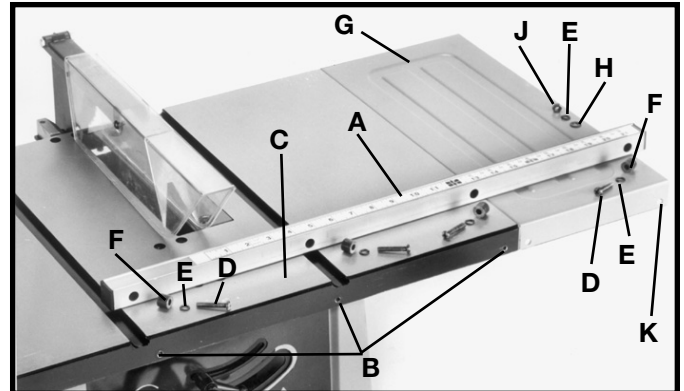

Fig. 20
1. Loosely fasten guide rail (A) Fig. 20, to three threaded holes (B) in saw table (C) using three 1/4-20 x 1-1/4" long screws (D), 1/4" lockwashers (E), and spacers (F). **IMPORTANT: Spacers (F) Fig. 20, are positioned between guide rail (A) and saw table (C).**
2. Fasten guide rail (A) Fig. 20, to extension wing (G) through hole (K) using the 1/4-20 x 1-1/4" long screw (D), 1/4" lockwasher (E), spacer (F), 1/4" flat washer (H), 1/4" lockwasher (E), and 1/4-20 hex nut (J). Then tighten all guide rail mounting hardware.
IMPORTANT: Spacer (F) Fig. 20, is positioned between guide rail (A) and extension wing (G).